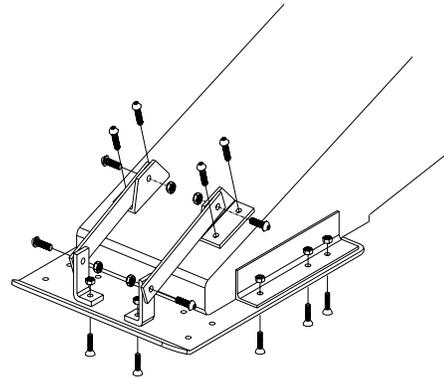

Figure 4
6. If the Trailer Plate {J2} extends beyond the King Pin box, then install the braces {K2-K4} as shown in Figure 4 {page 5}.
FOR KING PIN BOXES WITHOUT FLANGES: (Figure 4)
4. If the Trailer Plate {J2} extends beyond the King Pin Box, then install the Knee Braces as shown in Figure 4.